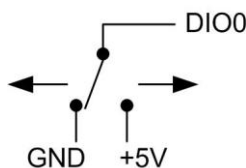

Figure 11. Schematic showing switch detection by digital channel DIO0
When you configure the digital bits for input, you can use the USB-TEMP-AI digital I/O terminals to detect the state of a TTL-compatible device. Refer to the schematic shown in Figure 11. If you set the switch to the +5V input, DIO0 reads *TRUE* (1). If you move the switch to the GND, DIO0 reads *FALSE* (0).